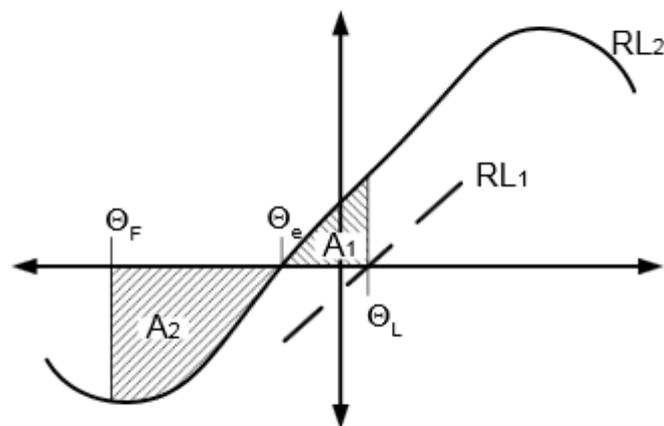

Fig. 1
- The restoring energy represented by area A2 in Fig.1 is to be at least 40% in excess of the potential energy represented by area A1.